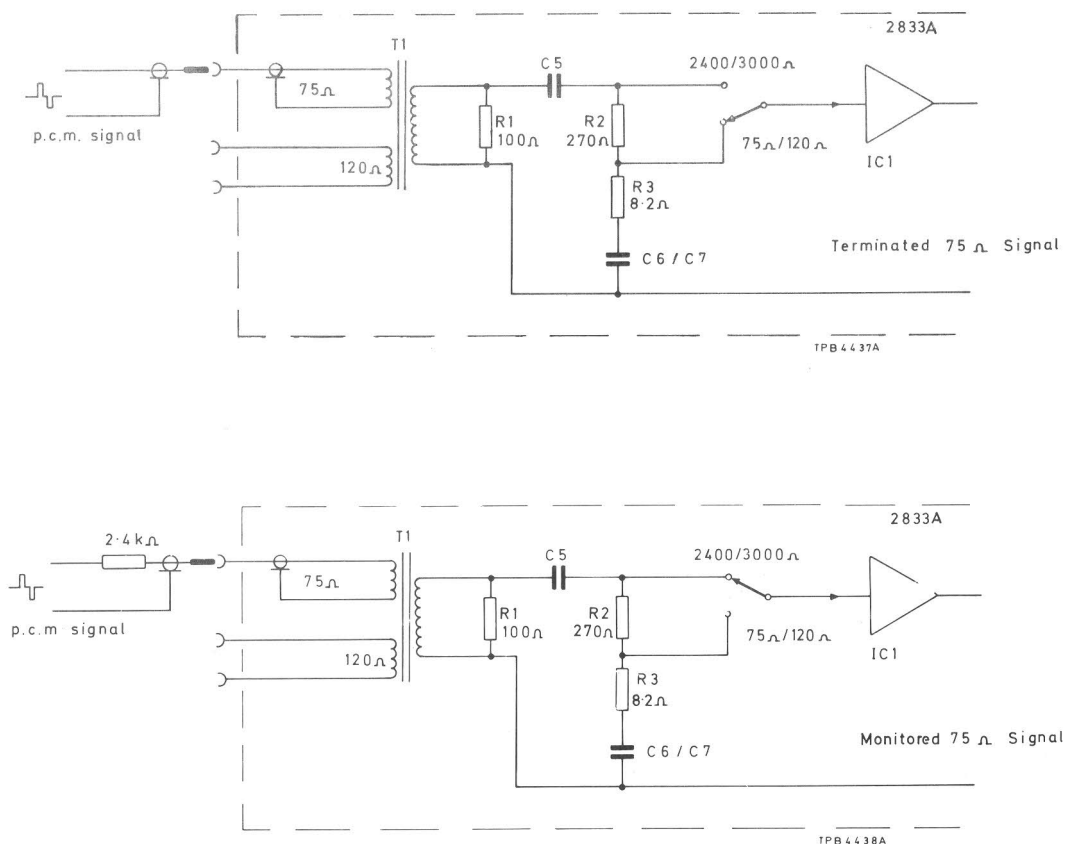

Fig. 3 Terminated and Monitor modes for 75 Ω systems
5. Connect the p.c.m. signal to the 120 Ω or 75 Ω INPUT. For 75 Ω systems connect the signal to the 75 Ω INPUT. If the 2833A is to terminate a 75 Ω system, depress SOURCE 75 Ω /120 Ω switch to select 75 Ω termination. If the 2833A is required to monitor a 75 Ω system via a 2.4 k Ω resistance, depress SOURCE 2400 Ω /3000 Ω switch to select 2400 Ω (see Fig. 3).